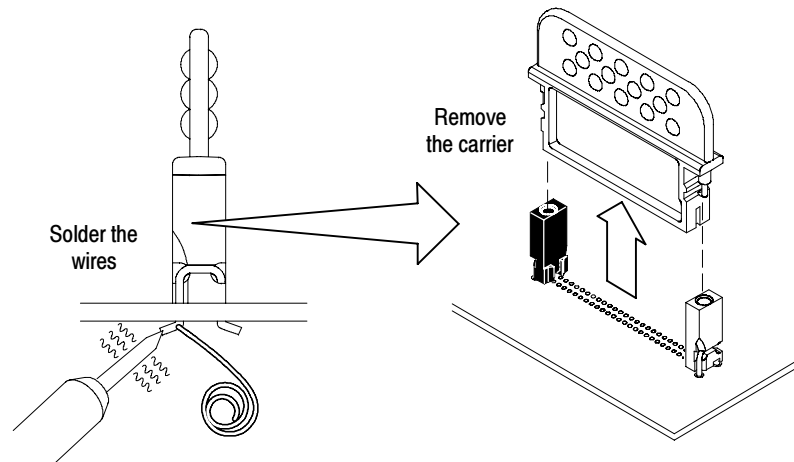

Figure 9: Soldering the retention posts in the PCB
- Solder the posts to the PCB. (See Figure 9 on page 13.) The posts can be soldered from the top or bottom of the circuit board, but it is best to solder the bottom to avoid the heat-sinking effects of the posts on top.